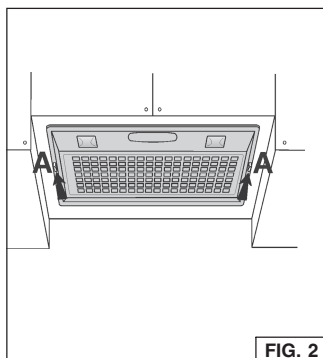
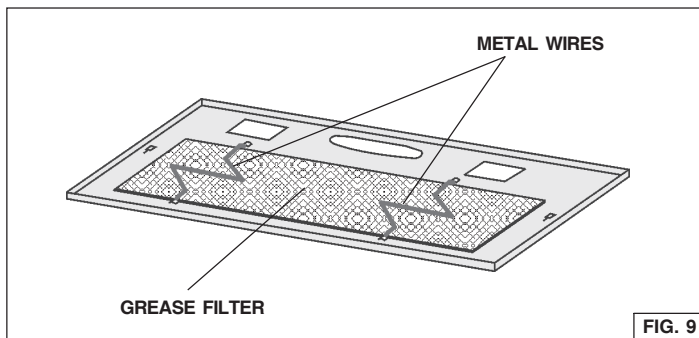

FIG. 2
FIG. 9
1. Remove the grid by moving the 2 slide fasteners "A" forward (Fig.2).
1. Remove the metal wires (Fig. 9) and discard them.
To remove the grease filter: remove the grid by moving the 2 slide fasteners "A" (Fig. 2); remove the metal wires and then the grease filter (Fig. 9).
1. Remove the grid by moving the 2 side fasteners "A" (Fig. 2).